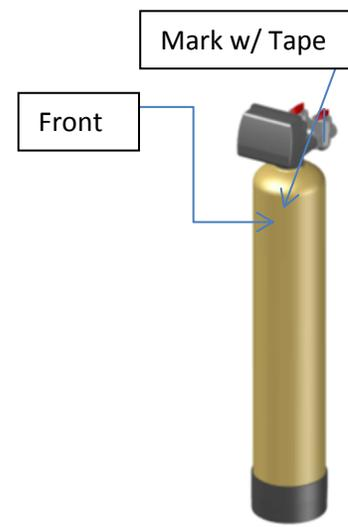

Figure 4:
- c. Mark the “front” of each media tank (shown in Figure 4) with either a marker or tape. The front of the media tank is determined by the location of the face of the control valve once it has been secured to the face of the control valve. Make sure that the system is positioned in a way that the plumbing can be installed.